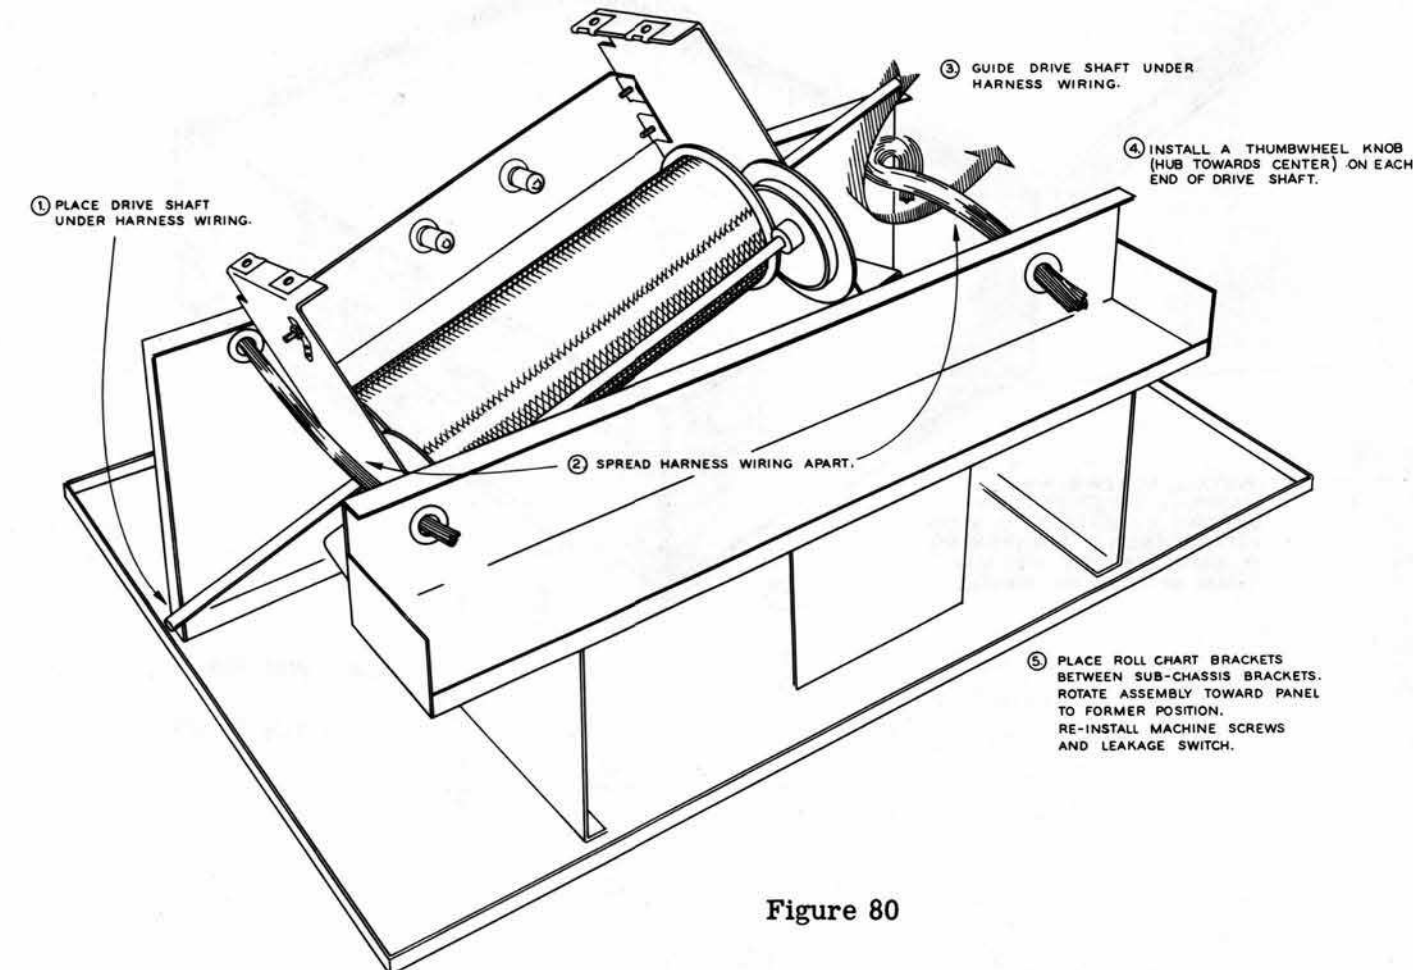

Figure 80
- () Replace the roll chart assembly in the tube tester, following the steps as outlined in Figure 80.